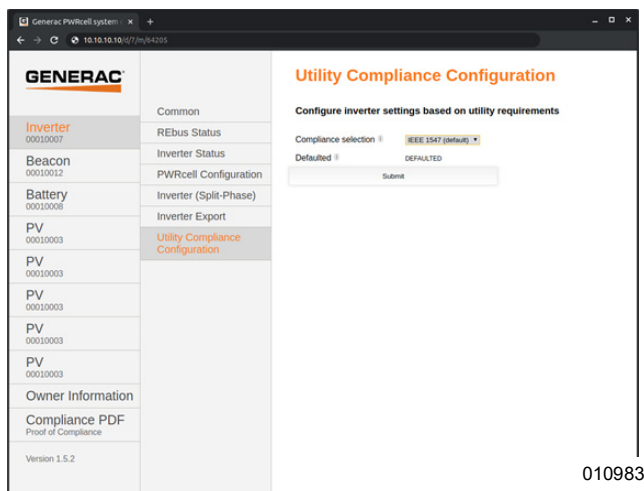

Figure 6-31. Utility Compliance Configuration
2. See Figure 6-31 Click on Utility Compliance Configuration and select the appropriate utility compliance standard from the menu at the bottom of the page. Click Submit to apply the compliance standard. The settings entered will not take effect until the Submit button has been clicked.